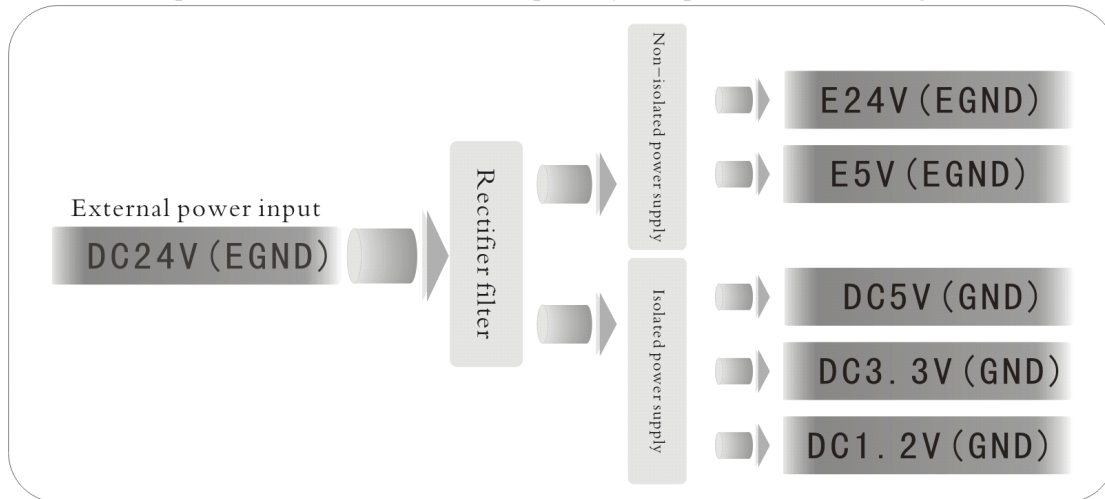

Figure 2-3 Power Diagram of Laser Control Panel System
The relationship of CNC-LS2320 laser control panel system power as shown in figure 2-3
2. DC24V(GND) input power supply of Laser drive board and DC24V(EGND) input of control panel should be used separately. In order to guarantee the two systems work properly, you must provide two completely independent power supply of DC24V. The relationship between them is shown in Figure 2-3.
Figure 2-3 the Relationship between Laser Control Panel and Driver board power supply